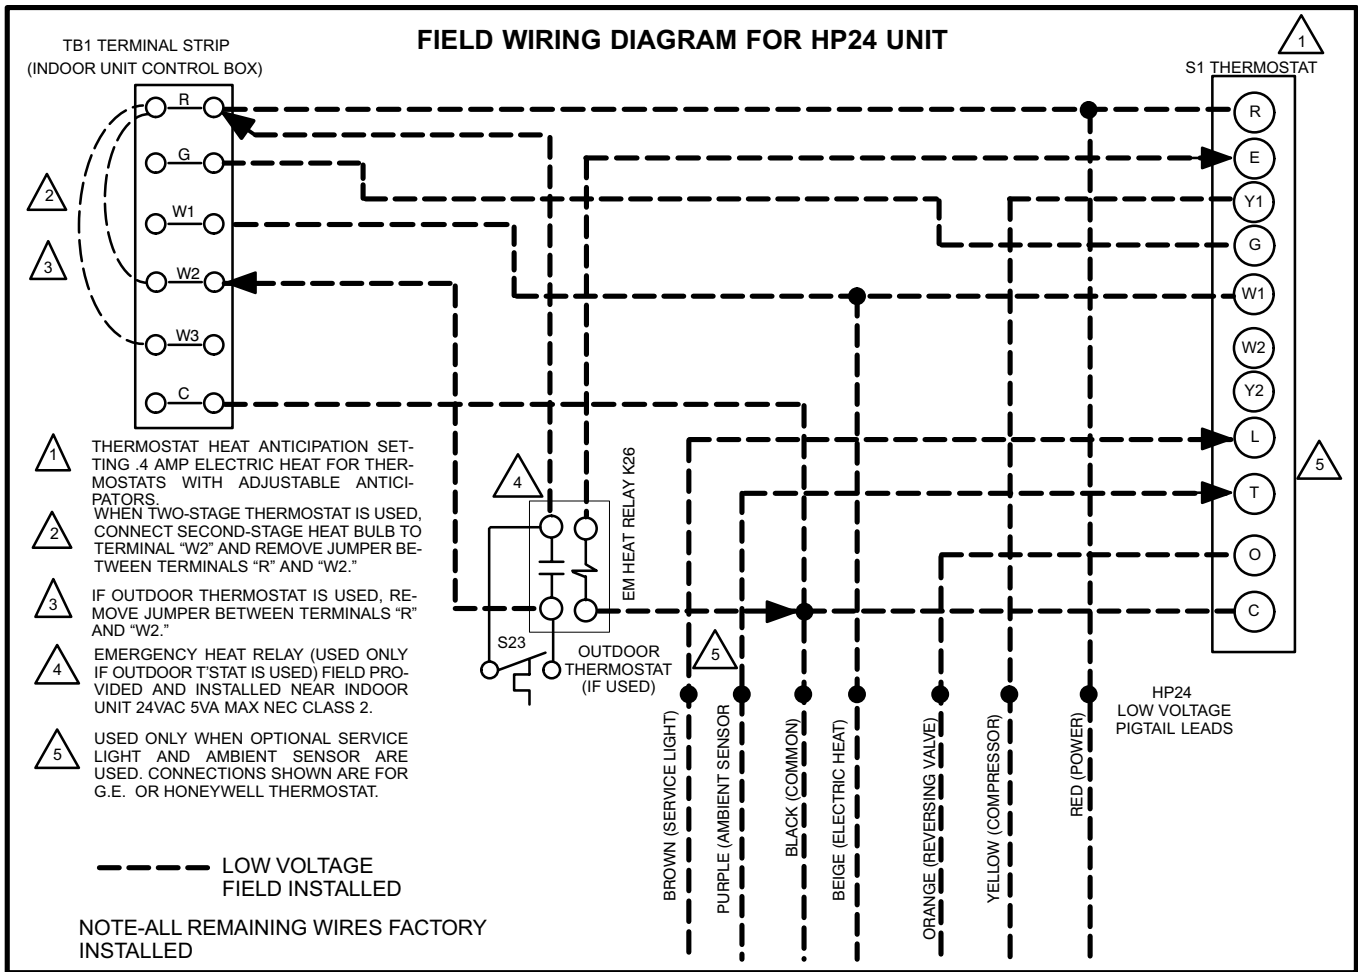

FIGURE 5
- 5- Route 24VAC control wires from the thermostat to indoor unit and from indoor unit to pigtail leads of the outdoor unit as shown in figure 5.
- 2- The thermometer well (packaged separately and attached to the liquid line) should be installed in the liquid line close to the HP24 unit as shown in figure 5. Connect thermometer well male end to female end of liquid valve. Take care to install thermometer well so that the thermometer can be inserted and read easily. Wrap a wet cloth around the liquid line valve body and copper tube stub to protect from heat damage during brazing. Wrap another wet cloth underneath the liquid valve to protect the base paint.